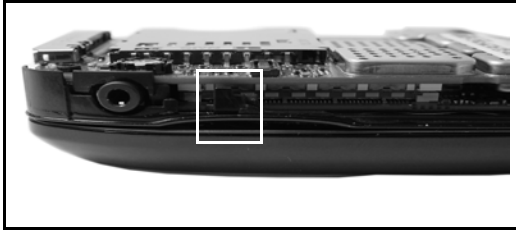

Figure 7-11.
1. Locate housing guide clip on front housing next to Audio Jack Port (See Figure 7-11).